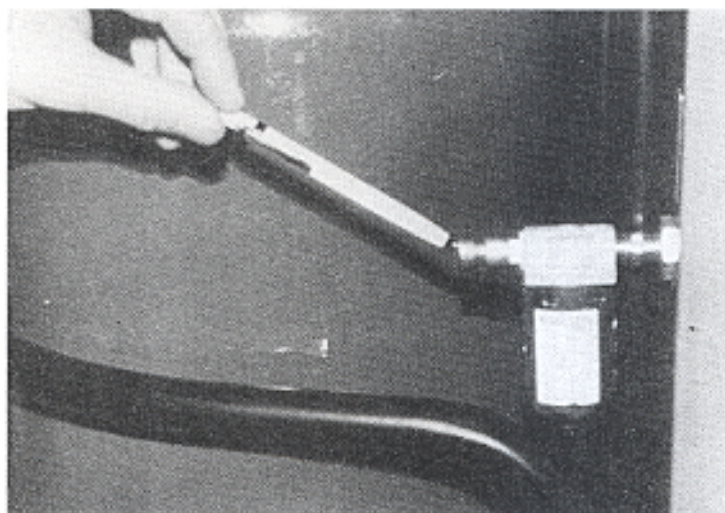

Fig.5
- Connect the station to compressed air (fig 5). The compressed air is ordinary workshop compressed air without oiling. The pressure is to be between 5 and 8 bar - 100 l/min.